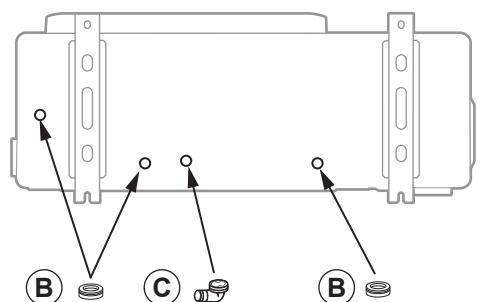

fig. 18 - Installation of the outdoor unit
- Water may flow out of the outdoor unit when it is operating. Do not install the outdoor unit on a paved terrace; choose a well-drained location (e.g. gravel or sand). If installation is carried out in an area where the temperature stays below 0°C for long periods, check that the presence of ice does not present any danger. A drain pipe can also be connected to the condensate drain pan (optional) (fig. 18, page 19).